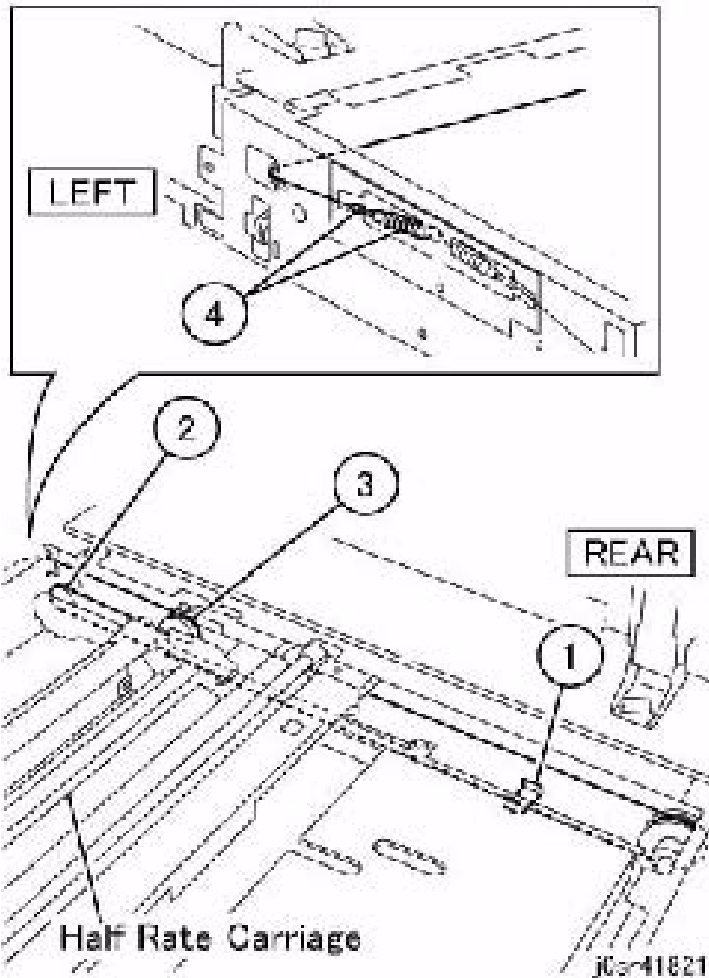

Figure 10 Installing the spring
3. Install the spring end of the Carriage Cable. (Figure 10)